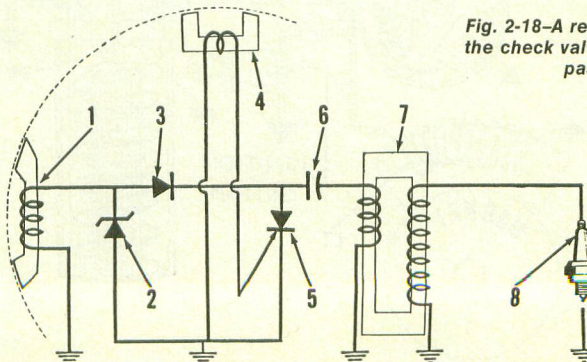

Fig. 2-16A—Schematic diagram of a typical Capacitor Discharge "Solid State" ignition system.
Fig. 2-16A shows a circuit diagram of a typical single cylinder, capacitor discharge, breakerless ignition system using permanent flywheel magnets as the energy source. The magnets pass by the input generating coil (1) to charge the capacitor (6), then by the trigger coil (4) to open the gate and permit the discharge pulse to enter the pulse transformer (7) and generate the spark which fires the plug (8). Only half of the generated current passes through diode (3) to charge the capacitor.